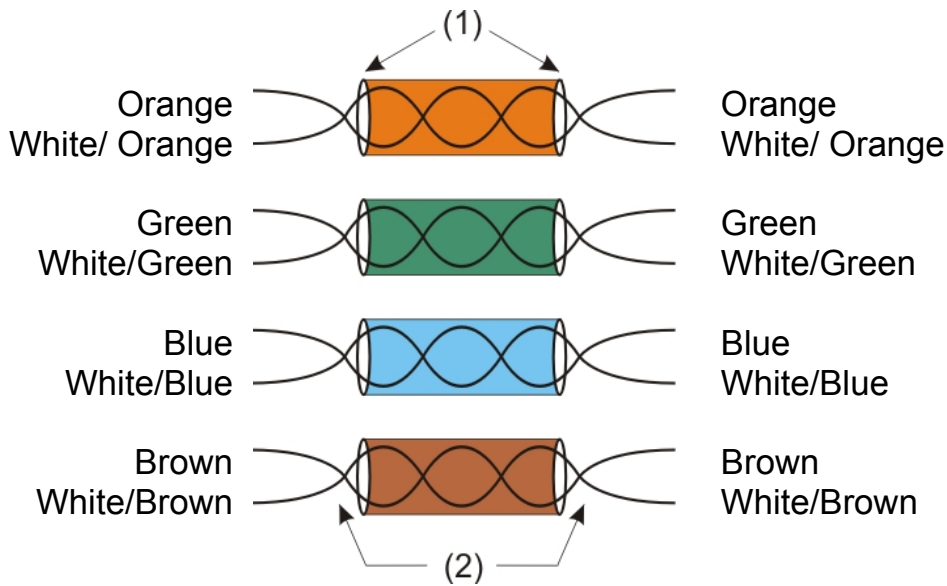

Figure 4: 4 x 2 x AWG cable strips
The Figure 4 shows the optimal preparation for the further processing of the cable. The cable is so far striped (1) that twisting (2) of the conductors in pairs can be seen. This is important, because in accordance with standard connection diagram PC100 you can see, which individual conductors are in pairs accordingly. If twisting is to be seen, then also the appropriate white/colored cable can be correctly assigned and presented with the connection to the color.